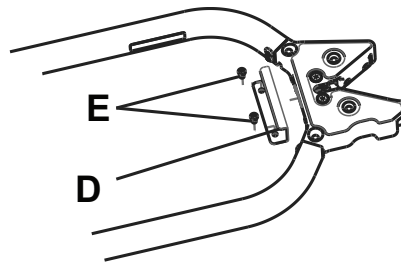

Figure 16 – Catch plate
1. Using an M6 Allen key, install the supplied catch plate (610000010015) (D) and two M6 Allen bolts (E) (not included) directly behind the cot fastener latch (Figure 16).